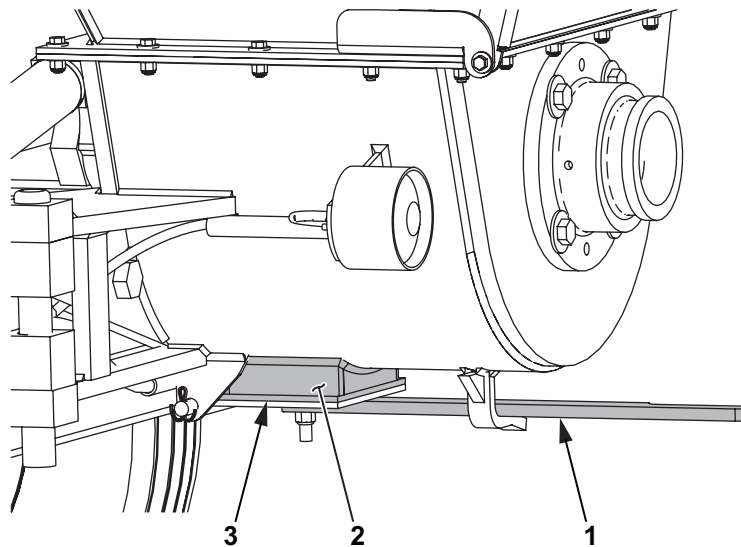

Figure 26 Cleanout Chute
4. Move the gate handle (Figure 26, Item 1) to the right.
5. Lower the hinged gate and empty hopper for access to the cleanout chute (Figure 26, Item 2).